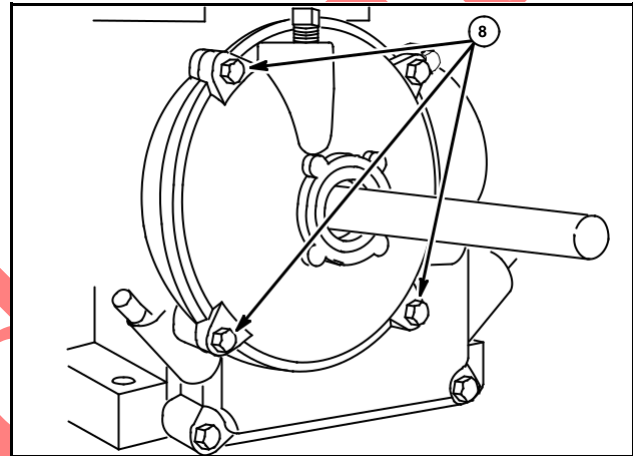

Fig. 31
13. Torque cover screws (8) to 90 in. lbs. (10 Nm), Fig. 31.